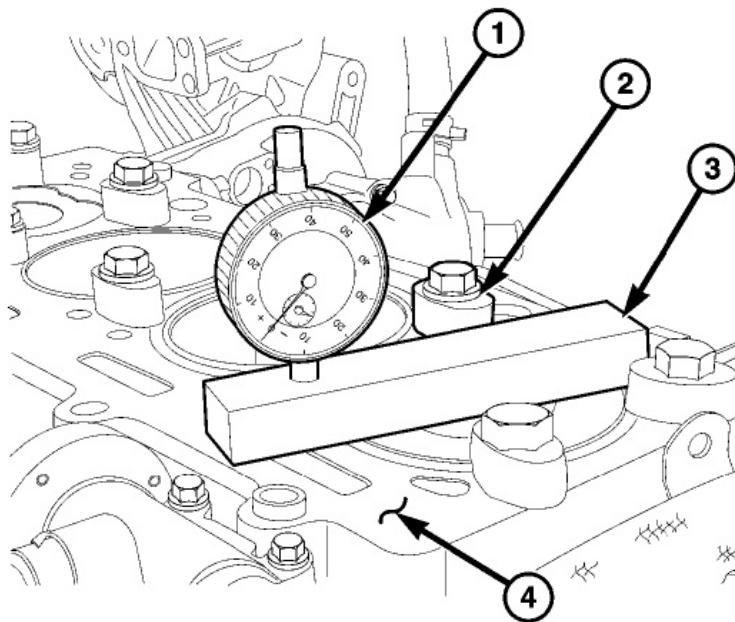

Figure 1. PISTON PROTRUSION SET-UP
3. Lie the straight edge special tool VM1010 across the cylinder sleeve and “zero” the dial indicator on the cylinder block mating surface as shown in Figure 1.